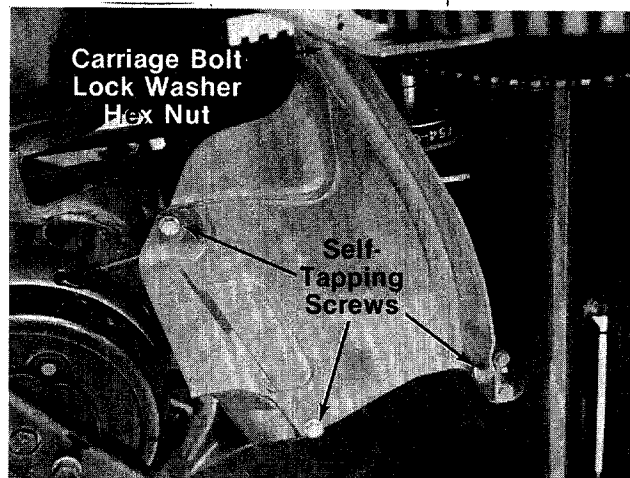

FIGURE 23.
5. Remove three self-tapping screws, and one carriage bolt, lock washer and hex nut from cover plate. See figure 23. Remove the cover plate.